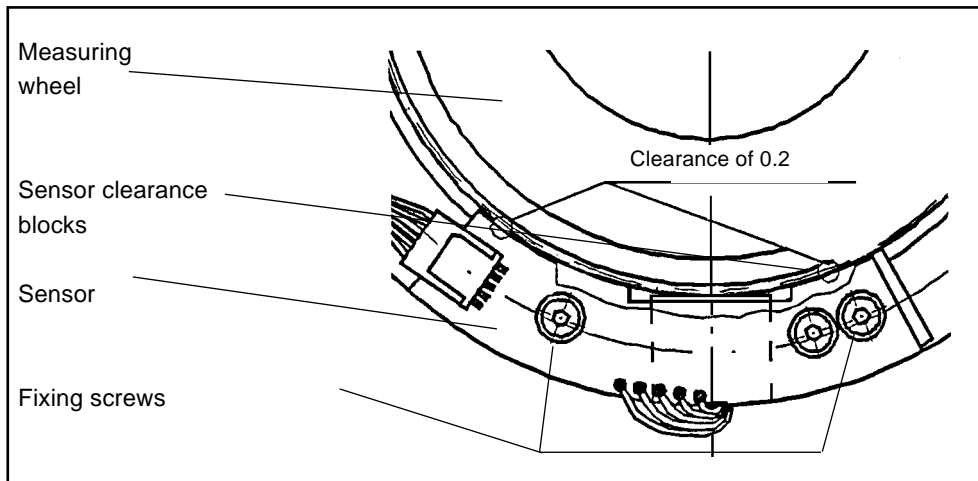

Figure 4.5: Adjusting the clearance between sensor and measuring wheel
*Function tests did not check out?* If the amplitude values are not within the permissible value range, then the clearance of sensor to measuring wheel must be readjusted (see Figure 4.5).